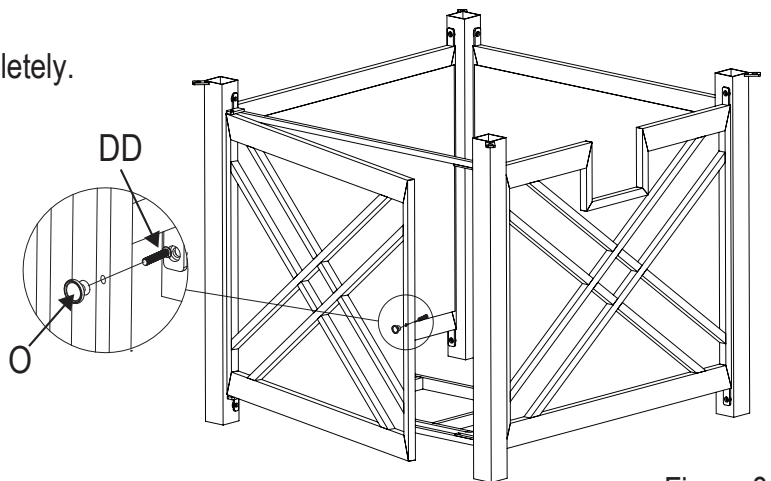

Figure 8
8. Attach door handle (O) with bolt (DD), then use Phillips screw driver (not included) to screw tightly (see Figure 8).